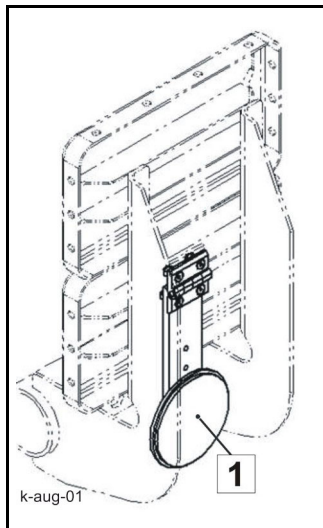

Fig. 54 Reflector
- Check the position of the rear reflector (1) (Fig. 54 Reflector).